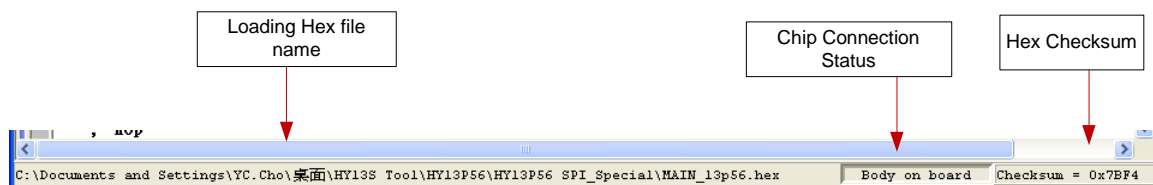

Figure 75
3. After assembling completed, Hex filename and Checksum will be displayed in underneath section, as Figure 75 illustrated.